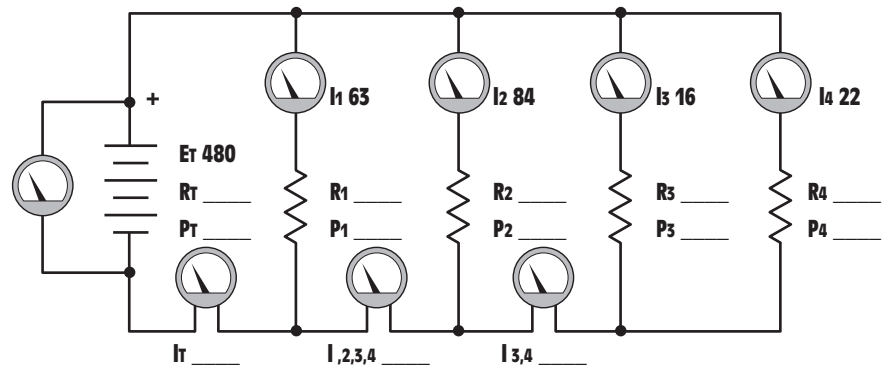

Figure 6-35 Practice Problem 10.
10. Find the missing values in the circuit shown in *Figure 6-35*.